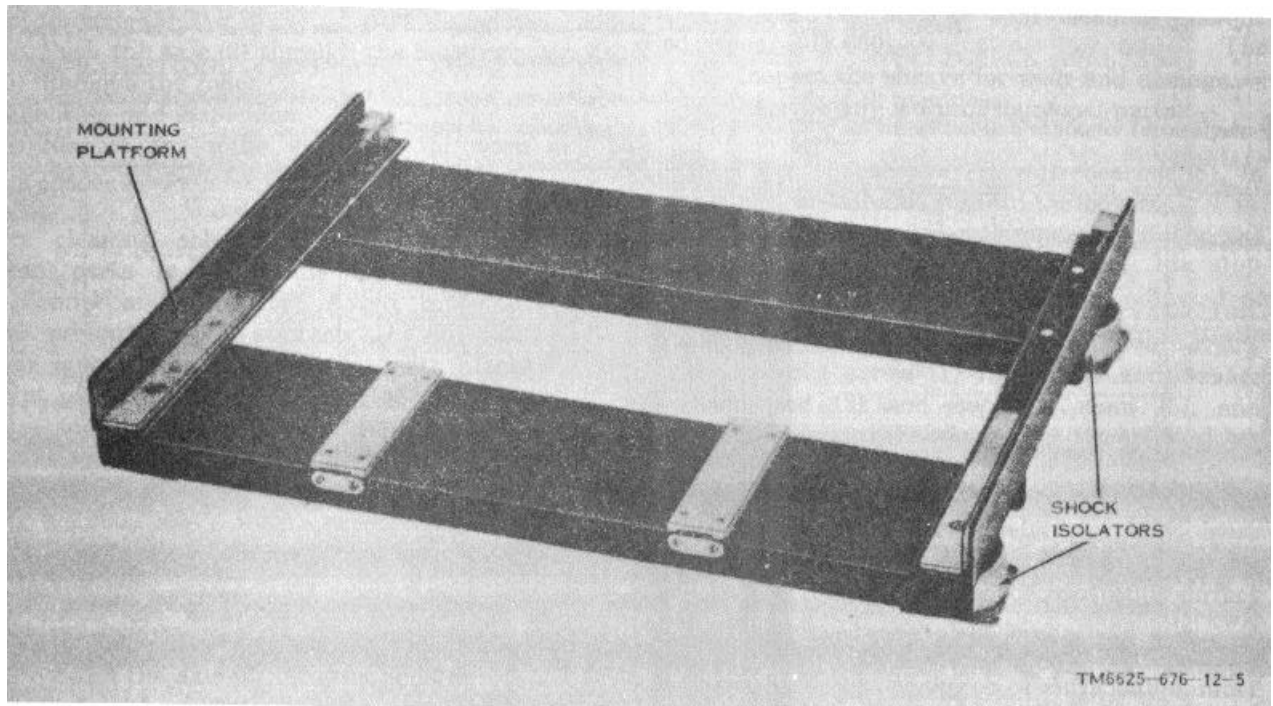

Figure 1-5. Mounting MT-3583/USA-23.
c. *Mounting MT-3583/USA-25* (fig. 1-5). The *shock mount* provides a common base for the main frame and the magazine, and contains the mounting platform and the shock isolators. The shock isolators minimize shock and vibration.